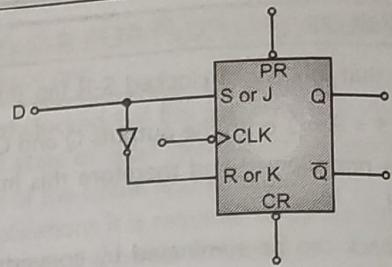

Fig. 3.23 : D flip flop using S-R flip flop or JK flip flop
- It has only one input called as data input (D).
- Thus, a D flip flop can be constructed from S-R flip flop or JK flip flop by connecting a NOT gate in between the two inputs as shown in Fig. 3.23.